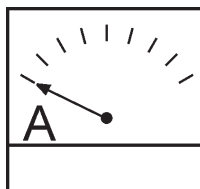

Figure 48. Ammeter (No Load)
7. The ammeter (Figure 48) will indicate **zero amps** with no load applied. When a load is applied, the ammeter will indicate the amount of current that the load is drawing from the generator.